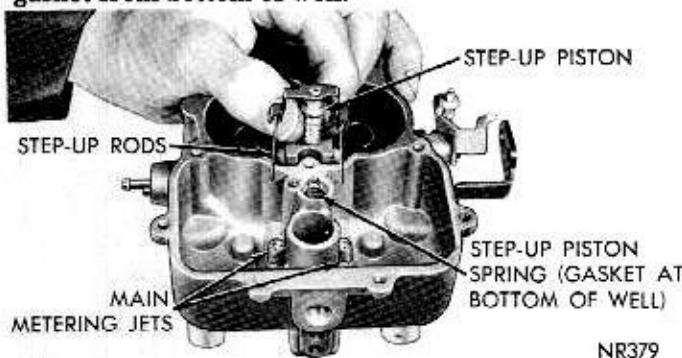

Fig. 4—Removing or Installing Step-up Piston
(10) Remove fuel inlet needle valve, seat and gasket from main body.
(11) Lift out float fulcrum pin retainer, and lift out floats and fulcrum pin.
(12) Remove step-up piston and retaining screw and slide step-up piston and rods out of well, (Fig. 4). Lift out step-up piston spring. Remove step-up piston gasket from bottom of well.
(8) Slide step-piston gasket down into position in piston well, then install the step-up piston spring, step-up piston and rods. Carefully guide step-up rods into main metering jets (Fig. 4). Install retaining screw and tighten securely. Check piston for free operation in well.